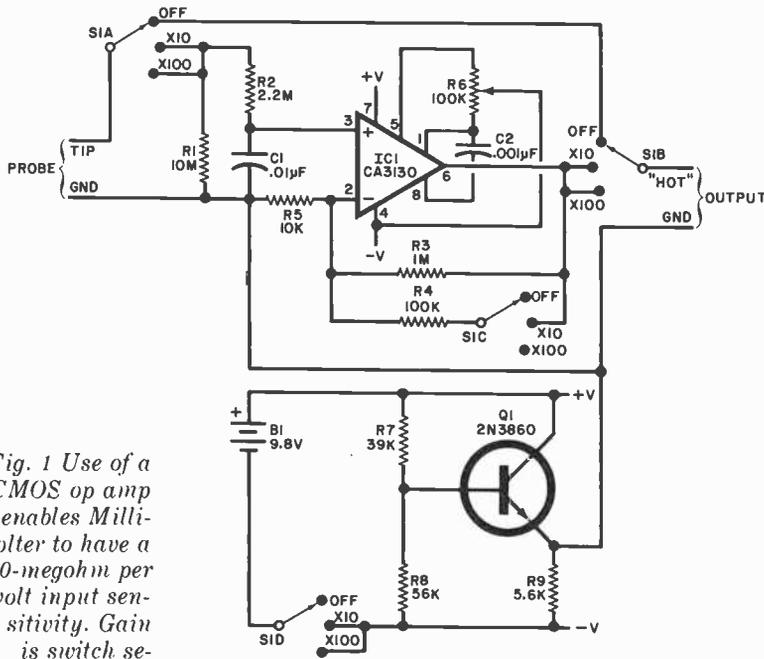

Fig. 1 Use of a new CMOS op amp enables Millivoltmeter to have a 1000-megohm per volt input sensitivity. Gain is switch-selectable between 10 and 100 times.
**How It Works.** The Millivolter is built around a new CA3130 linear CMOS op amp (IC1 in Fig. 1) that has extremely low bias current requirements. This permits large values of input resistance to be effectively used. In this case, 10 megohms is used without seriously affecting the output voltage when the probe inputs are shorted.
The circuit shown in Fig. 1 employs 1% tolerance resistors in the gain-setting feedback loop, which means that no gain-adjusting trimmer potentiometers are required. The offset voltage can be adequately trimmed to null by adjusting potentiometer R6.